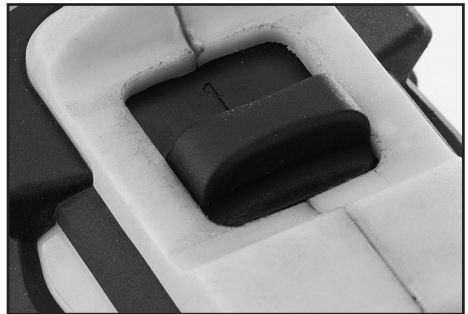

FIG.5
9.5 TWO SPEED GEAR BOX – FIG.5